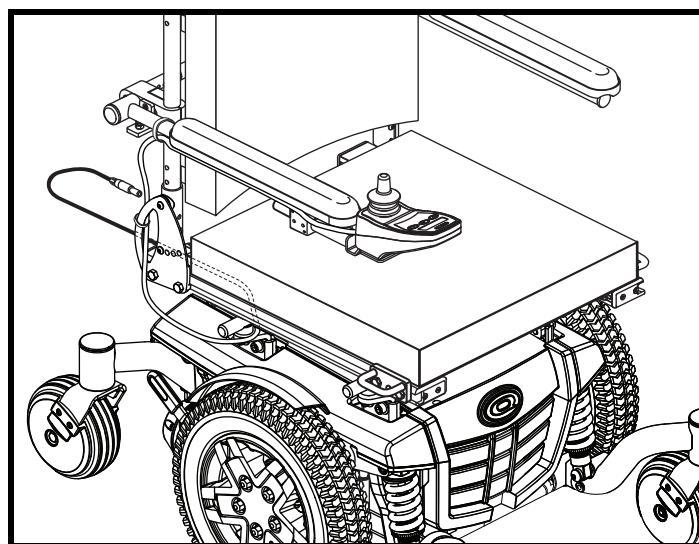

Figure 8. Controller Harness Routing on a Synergy Seat
5. Secure the controller harness to the armrest receiver with wire ties. **See figure 8.**